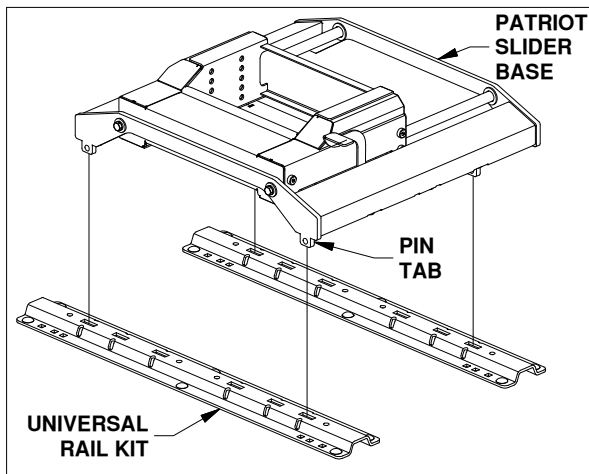

FIGURE B1: Rail attachment.
1. The Patriot Slider base will mount to a rail kit in the truck bed. Remove any debris and/or obstructions from the bed. Place the Patriot Slider base over the rail attachment points and carefully lower it until the pin tabs pass through the attachment points and the base rests flat against the top of the rails, see figure B1.